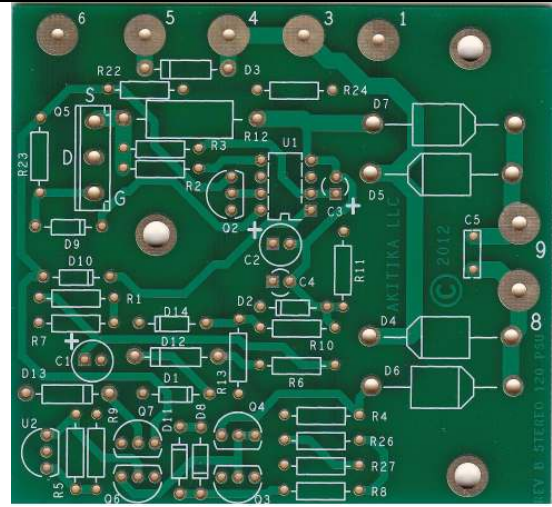

Figure 3-C2 shape and polarity marking is correct on Rev B boards
- b. The Rev B PCB has correct shape and polarity marking for C2 (Figure 3).